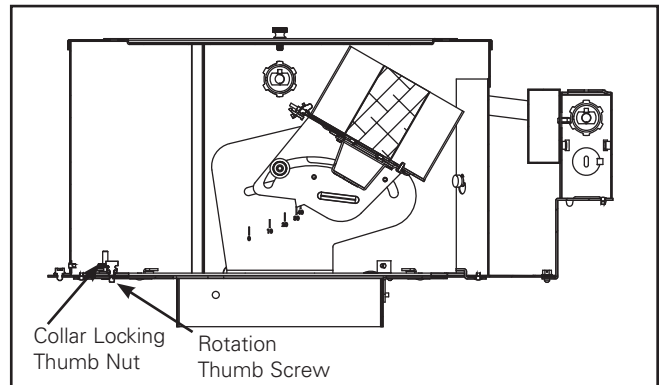

Figure 4.
3. Tighten Angle Adjustment Thumbnuts (2) to lock in angle.
5. If adjustment of the rotational alignment of the collar is desired, loosen the collar locking thumb nut. Rotate the collar to the desired position and then tighten the collar locking thumb nut (Figure 4)
6. Reach through collar opening, loosen Rotation Thumb Screw, rotate to desired direction and re tighten thumb screw to lock in place (Figure 4).